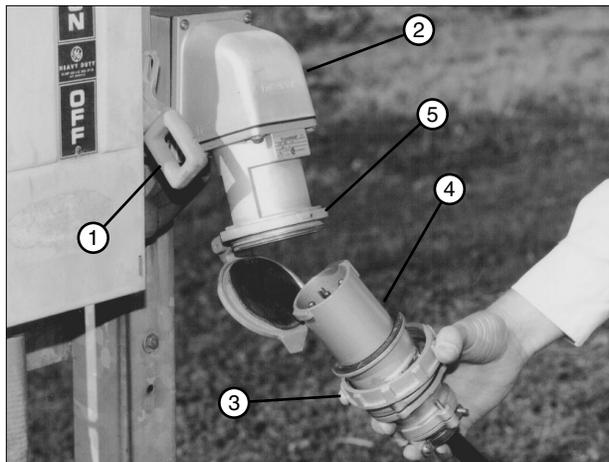

Figure 42-1 1. Disconnect Switch 2. Power Pedestal 3. Plug Cap Collar 4. Plug 5. Receptacle
- Turn the power pedestal disconnect switch to the OFF position. See Figure 42-1.
- Remove plug cap from electric cord plug, and insert the electric cord plug into the power pedestal receptacle. See Figure 42-1.